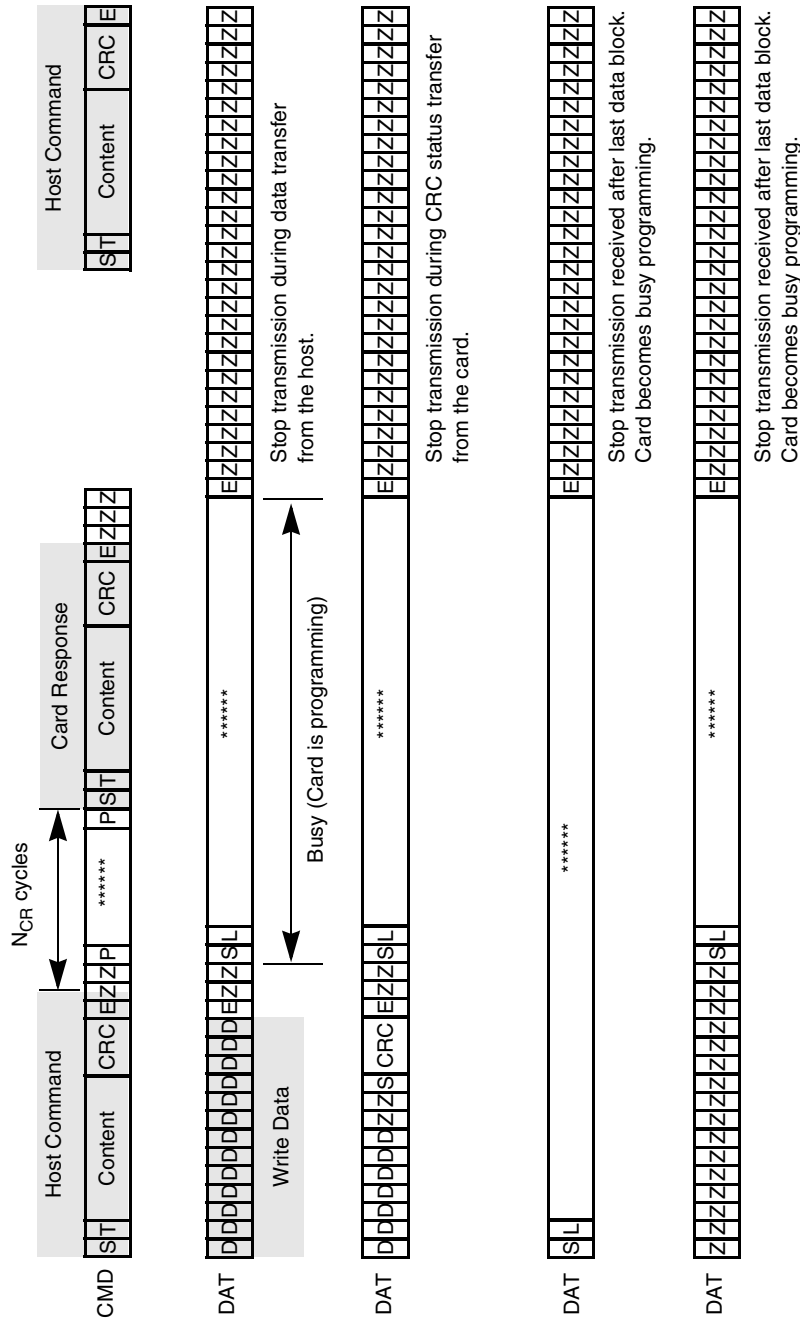

Figure 47. Stop Transmission During Different Scenarios
The card identification and card operation conditions timing are processed in open-drain mode. The card response to the host command starts after exactly  $N_{ID}$  clock cycles. For the card address assignment, SET\_RCA is also processed in the open-drain mode. The minimum delay between the host command and card response is NCR clock cycles as illustrated in Figure 43. The symbols for Figure 43 through Figure 47 are defined in Table 23.
Table 23. State Signal Parameters for Figure 43 through Figure 47
Table 24. Timing Values for Figure 43 through Figure 47
**Table 24. Timing Values for Figure 43 through Figure 47 (Continued)**